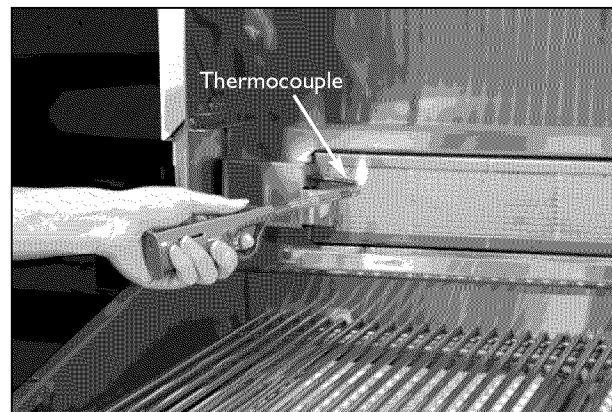

FIG. 47
To manually light the rotisserie, place a butane lighter near the tip of the thermocouple as shown in Fig. 47. Turn the control knob to "HI". Hold the safety valve button in for about 4 to 5 seconds or until the burner remains lit. Once lit, turn control knob to desired setting. If the burner does not light within 4 or 5 seconds, release the safety valve button and turn the control knob to "OFF" and wait 5 minutes before trying again.
3. Does the rotisserie burner light when attempting to light with butane lighter (Fig. 47)?